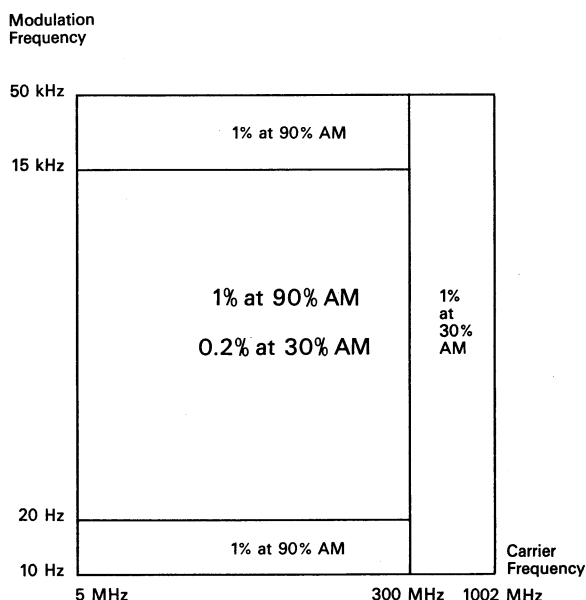

Fig. E2. Distortion for modulation percentage measurements.
15) Read the modulation percentage. Check if the reading is the same for both peaks of modulation: a difference indicates distortion of the modulation envelope. See Fig. E2, and refer to SECTION B - SPECIFICATIONS under "AM MODULATION Distortion".